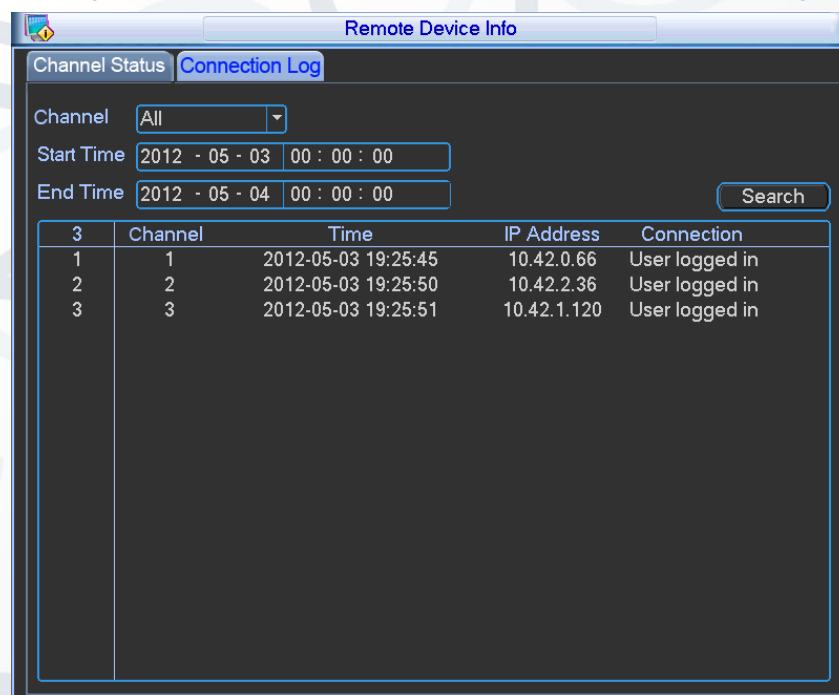

Figure 5-15
- **Connection log:** In this interface, you can search the IPC log information for the corresponding channel. It also includes IPC online, offline, etc. (See Figure 5-15).